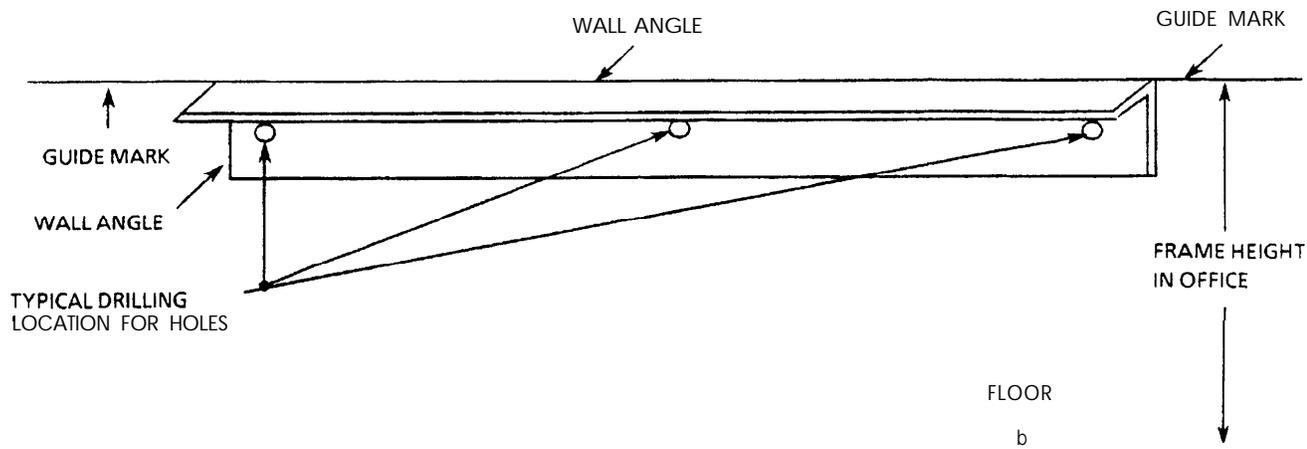

Figure 12. Marking for Wall Angle (Level Floor).
- (c) Mark the wall at this point rather than marking from the floor (Figure 12).
5.04 After guide marking the wall at each end of the proposed wall angle location (Figures 12 and 13), proceed as follows: